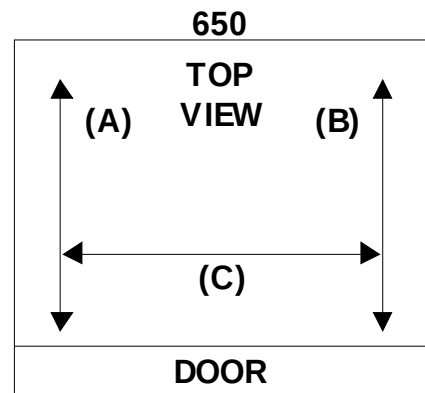

Figure 2-1. Leveling the 650
3. The unit must be leveled. Use *Figure 2-1* as a guide.